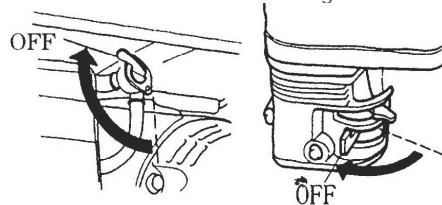

Fig. 12
6.2.4 Set the fuel switch to OFF position. (Fig. 12)